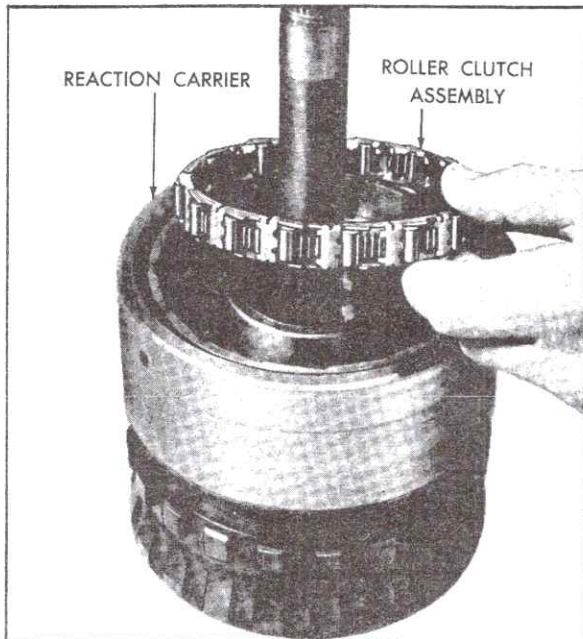

Fig. 7-88 Installing Roller Clutch in Reaction Carrier
18. Install roller clutch assembly in reaction carrier, Fig. 7-88.